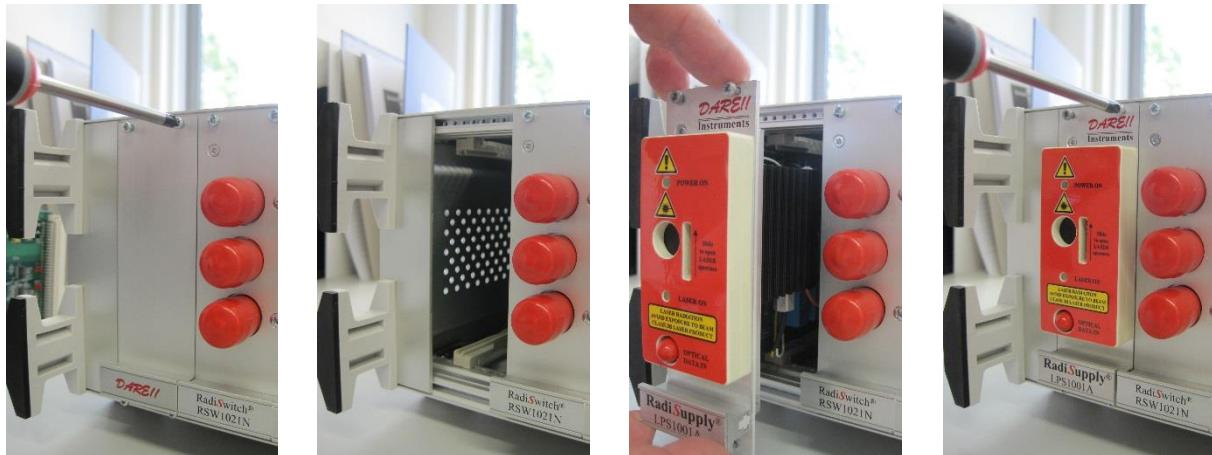

Figure 12: Example of a (RadiSupply® LPS1001A) plug-in card installation
2. Remove the blind panel from this slot by removing the four screws of the panel (two on top and two at the bottom). See Figure 12.
3. Gently insert the plug-in card into the slot of the RadiCentre® and reinsert the four screws. See Figure 12.